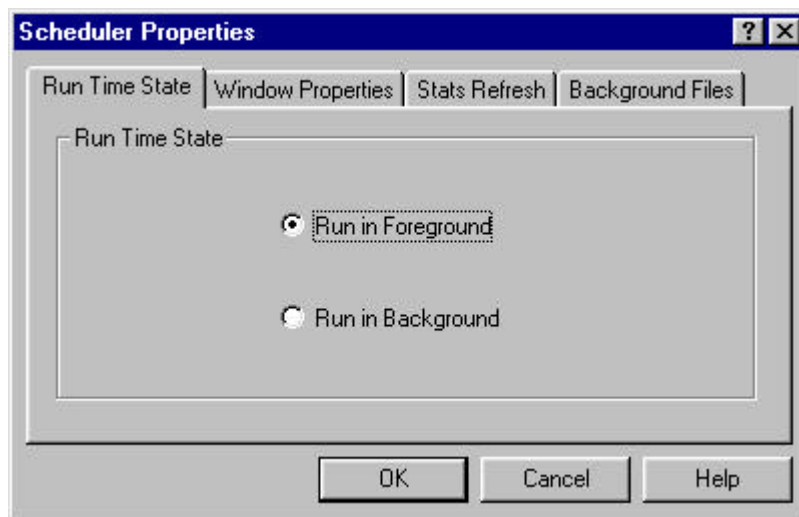

Figure 29. Task foreground/background run mode configuration.
- 2) Modify the Interval setting (1 in the figure 29).